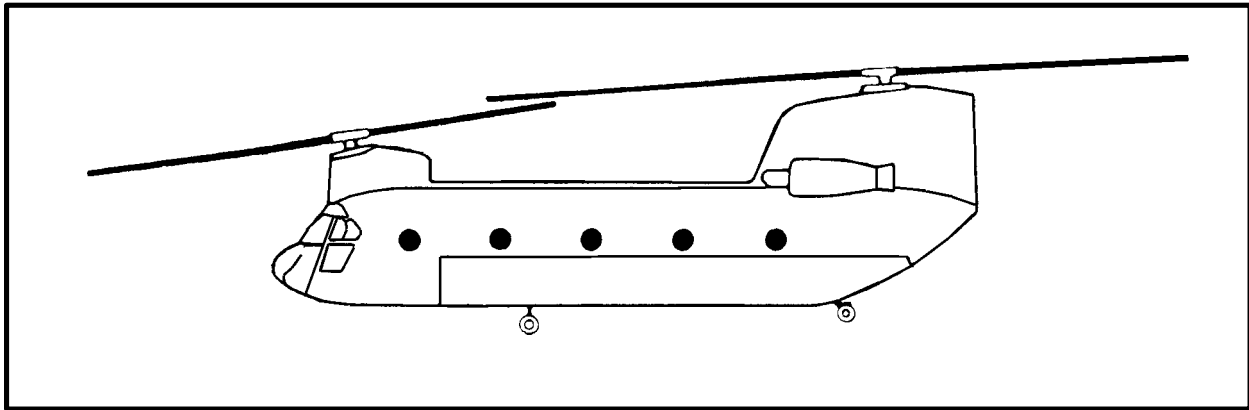

Figure 2-12. H-47 Chinook
**e. H-47.** The H-47 Chinook (Figure 2-12) is a twin engine, tandem rotor helicopter manufactured by the Boeing Vertol Company. The primary mission of the Chinook is to aerial deliver personnel, supplies, and equipment. The flight engineer lays on the floor and guides the pilot by giving him directions to help him position the aircraft directly over the load.